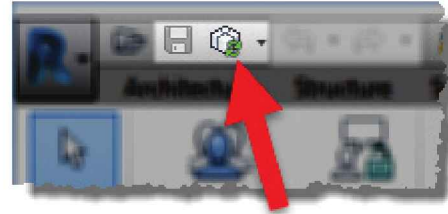

FIGURE 16-4.6 Sync with Central
On the Quick Access Toolbar, notice the regular Save icon is now grayed out and the icon to the right, **Synchronize with Central**, is active (Figure 16-4.6). In the future, keep in mind that this is a clue that you are in the Central File—which you should not be in. **In fact, once this file is closed, you typically never need to open it directly again.**
6. Click **Synchronize with Central** on the QAT (Figure 16-4.6).